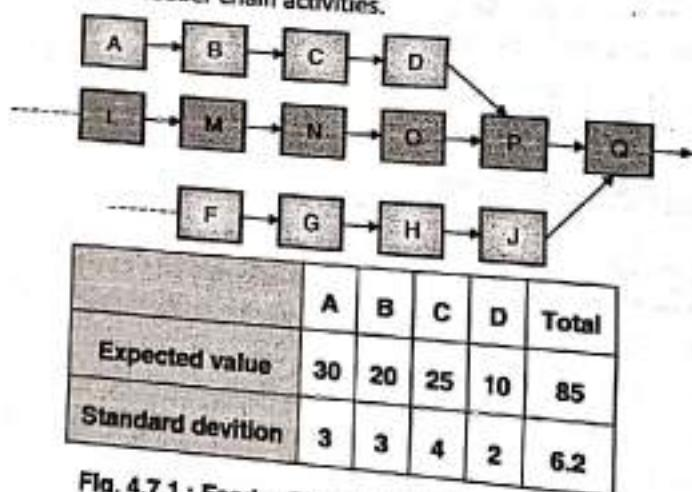

Fig. 4.7.1 : Feeder Chains and Critical Chains
- All the activities in the project that are not on the critical chain are by definition, noncritical activities and have some float associated with them. In real projects these activities tend to group themselves together to form subprojects within the project. Goldratt calls them "feeder chains." The characteristic is that the feeder chains are relatively independent of the critical chain until an activity on the critical chain depends on them. In Fig. 4.7.1, feeder chain A, B, C, D has quite a lot of independence until the time activity P on the critical chain depends on it. The same is true of other feeder chains.